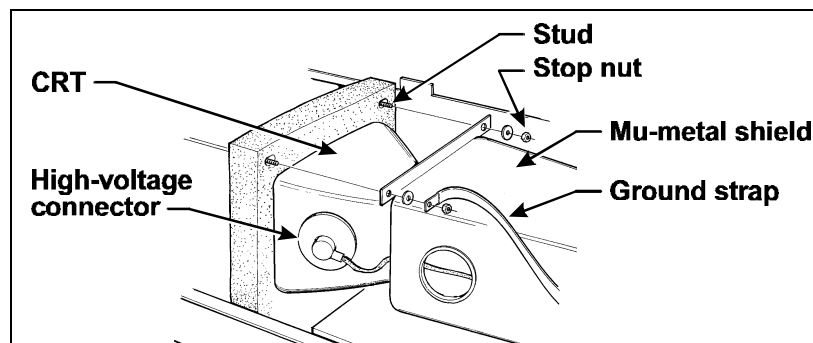

Figure 5-20. Sliding the shield onto its mounting studs
4. Attach the high-voltage connector to the side of the CRT (Figure 5-20).
8. Using washers and locknuts, secure the Mu-metal shield to the studs. Capture the grounding strap lug between the washer and the nut on the outside stud (Figure 5-20).